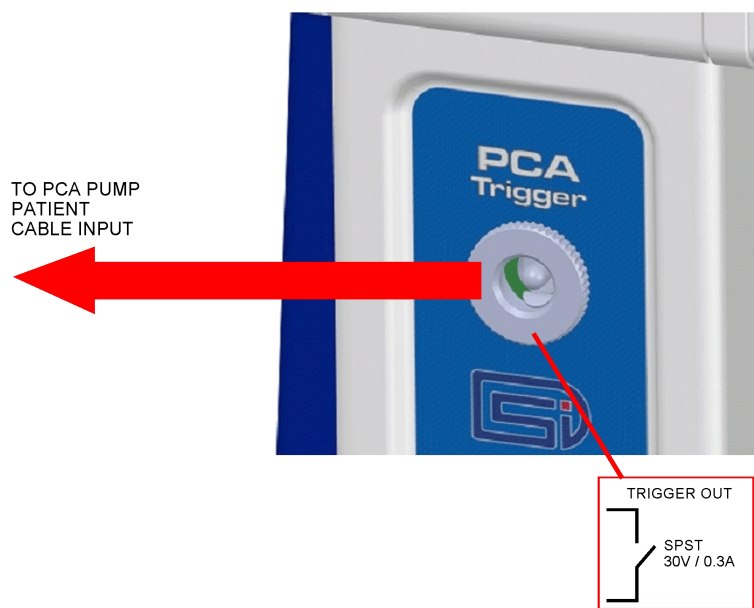

Figure 30
- b. Connect the **PCA Trigger** on the front of the vPad-IV Module to the input on the PCA device that would otherwise be used to connect a patient cable with pushbutton or similar control. Note that the Module's PCA trigger output is a 1/8" (3.2mm) monaural phono jack, providing a normally-open single-pole contact rated at 30V/0.3A (*Figure 30*).